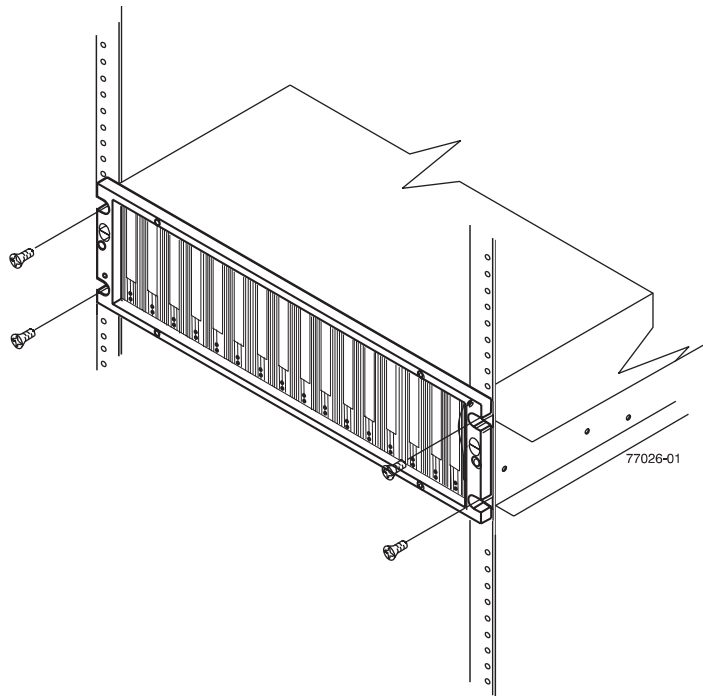

Figure 18. Securing the storage expansion enclosure to the Rack
4. Secure the storage expansion enclosure. Figure 18 on page 34 shows how to secure the storage expansion enclosure to the rack.
- c. Secure the front of the storage expansion enclosure using the four M5 screws as shown in Figure 18 on page 34.